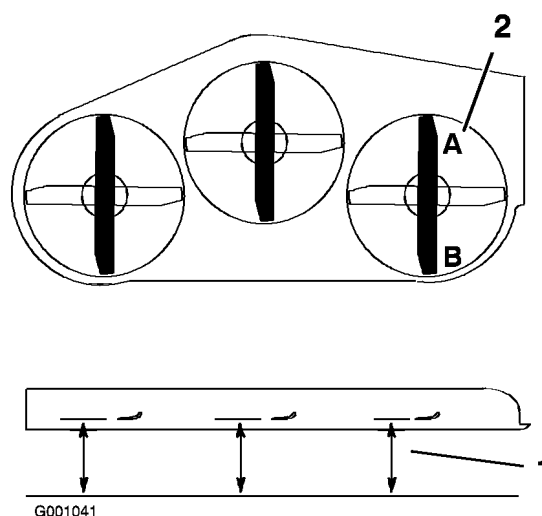

Figure 69
- Position the **right** blade front-to-rear (Figure 69).
- Measure the right blade at the **A** location, from a level surface to the cutting edge of the blade tip (Figure 69).
- Measure the right blade at the **B** location, from a level surface to the cutting edge of the blade tip (Figure 69).
- The mower blade should be a 1/4 to 3/8 inch (6 to 10 mm) lower at position **A** than at position **B** (Figure 69). If it is not correct, proceed to the following steps.